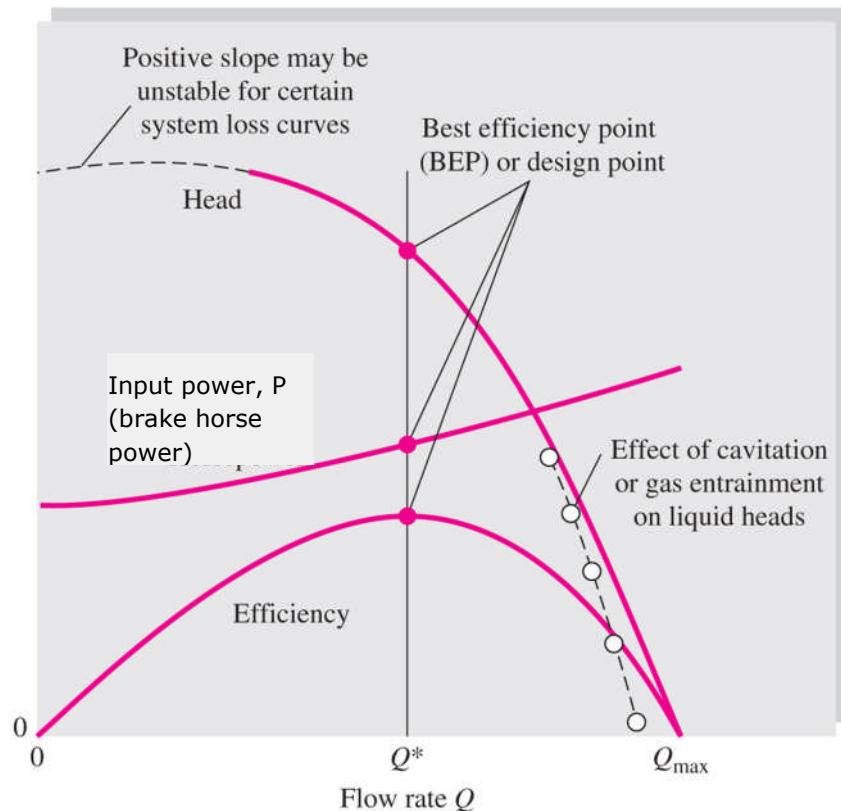
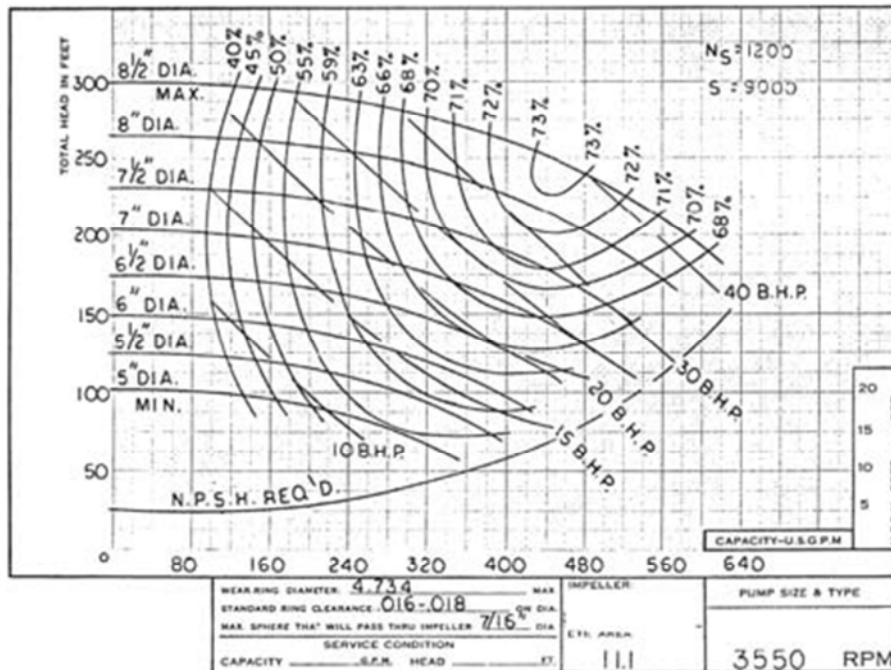

Figure 6: Centrifugal pump performance curves, for constant shaft speed.
Figure 7: Pump performance curve [4]
Pump performance is usually obtained from experimental data plotted on performance curves of the type illustrated in Figure 6. The set of curves is obtained for constant shaft speed. Typically three parameters are plotted against flowrate Q :
2. Power to drive the pump (as in Eq 4, also known as bhp). From Figure 6 it is seen that the pump power increases as the flowrate increases.
A typical pump performance curve is shown in Figure 7. Flowrate in US gpm (US gallons per minute) is shown along the x-axis (1 US gpm = 3.79 lpm) with generated head (feet of water) on the y-axis. The power and efficiency data is given in a slightly different form to that of Figure 6 but the same data is included as illustrated in the worked example.
An 8" pump of the type described by the performance curves of Figure 7 is required to pump water at $0.025\text{m}^3/\text{s}$. What is the efficiency and pump power for this operation point? What differential pressure does the pump generate?
You will note that there is a line on Figure 7 entitled NPSH. This gives the head required at inlet to prevent the pump from cavitating (in theory!).
Pump performance curves (such as Figure 7) clearly suggest dimensional analysis should be carried out – and of course it has been! The output variables pump head (head included as gH rather than just H for dimensional reasons) and pump input power P (“bhp”) are assumed to be dependant on flowrate (discharge), Q , impeller diameter, D , shaft speed, n , surface roughness, ϵ , and fluid properties μ and ρ . This gives the following functional relationships